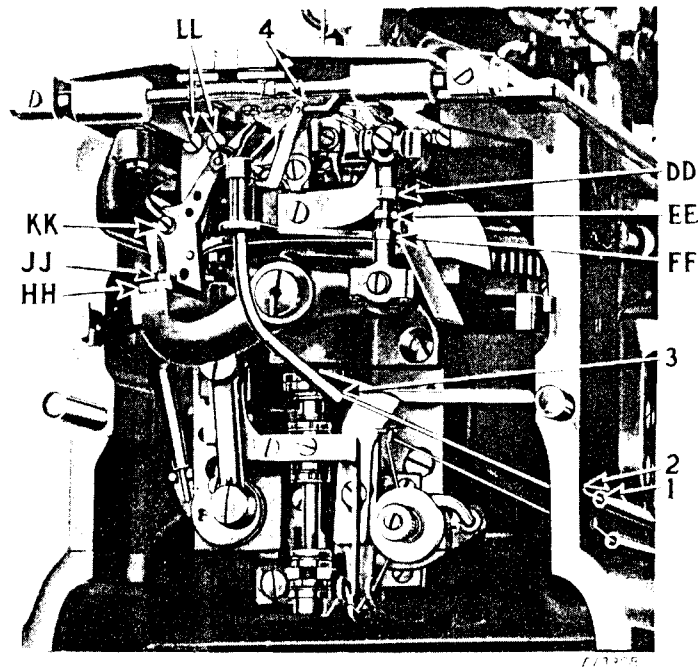
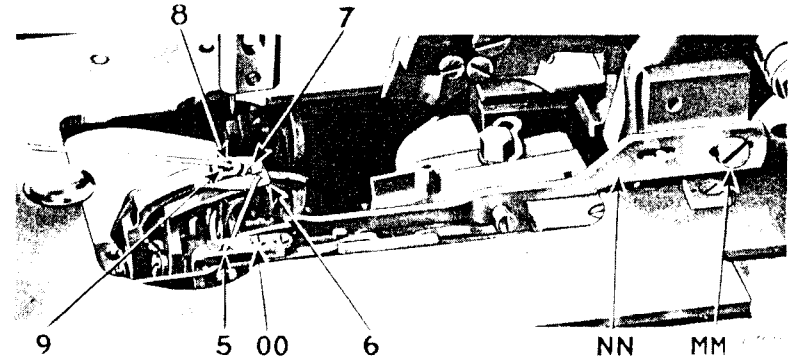
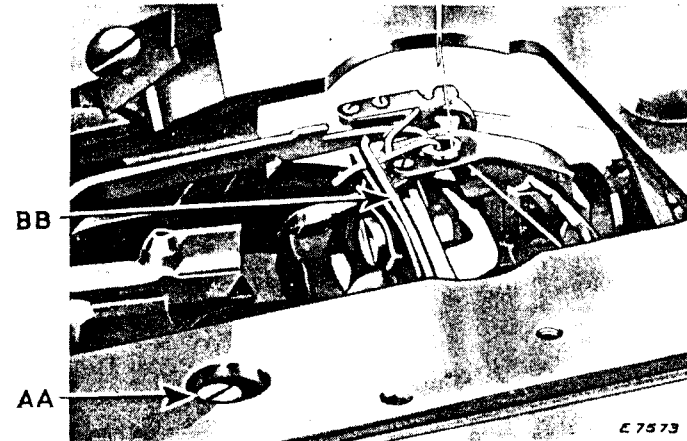

Fig. 39. Threading the Cord
Fig. 40. Threading the Cord
Fig. 43. View of Machine, Showing Under Thread and Cord Trimmer
(See Figs. 39 and 40)
upper brass tube (1, Fig. 39) which is attached to the right side of the machine (using the threading wire furnished for the
purpose), then pass the cord through the upper hole (2, Fig. 39) in the right hand side of the bed of the machine, upwardly through
the cord tube (3, Fig. 39) (using the threading wire furnished for the purpose), then pass the cord through the hole (4, Fig. 39) in the end of the cord leader, up through the hole (5, Fig. 40) in the cord guide and under the tension spring which is attached to the guide, down through the right hand hole (6, Fig. 40) in the throat plate, up through the hole (7, Fig. 40) in the throat plate and under the throat plate tension spring, toward you through the hole (8, Fig. 40) near the center of the throat plate, the cord leading toward you through the large needle hole (9, Fig. 40) in the throat plate, as shown above. Then swing the work clamp plates back into place and hook the springs at the rear of the plates to hold the plates in position.
To increase the tension on the cord, turn the screw (OO, Fig. 40) downwardly. To decrease the tension on the cord, turn the screw (OO) upwardly.
After the trimming of the cord, the buttonhole cutting mechanism moves forward to a cutting position, and at the same time actuates the cord pull-off (NN, Fig. 40), causing it to pull the cord back through the horizontal cord hole (8, Fig. 40) in the throat plate.
The cord pull-off (NN) should draw off just enough cord to permit the cut end to extend through the horizontal hole (8, Fig. 40) in the throat plate to the opposite side of the needle opening (9, Fig. 40). This will leave sufficient cord with which to commence the sewing of the next buttonhole.
To adjust the cord pull-off (NN) to pull more or less cord, loosen the screw (MM, Fig. 40) and move the cord pull-off (NN) forward or backward on the buttonhole cutting lever bracket, as required, then securely tighten the screw (MM).
When the under thread and cord trimmer blades are cutting the threads, the upper or stationary blade (BB, Fig. 43) should pass
sufficiently close to the material to gather in both threads and cord lying between the last stitch of the buttonhole and the throat plate and as close as possible to the last stitch to ensure close trimming. To adjust the under thread trimmer, loosen the screw (JJ, Fig. 39), and slide the bracket (HH, Fig. 39) in or out, as required, then securely tighten the screw (JJ). After making this adjustment, see that the stud in the heel of the movable knife projects the full depth through the slot of the movable knife operating cam. If it does not, loosen the screw (AA, Fig. 43) and slide the knife operating cam in or out as required, then securely tighten the screw (AA).
The thread trimmer blades should be adjusted so that when they close, the cutting edges fully pass each other to ensure severing the threads and cord. To make this adjustment, loosen the two screws (LL, Fig. 39) and swing the cam downwardly to cause the trimmer blades to close more, or upwardly to close less, then securely tighten the two screws (LL).
To adjust the trimmer to move further forward across the path of the threads and cord, loosen the two nuts (DD and FF, Fig. 39) and turn the adjusting screw (EE, Fig. 39) to the right. To adjust the trimmer to move further backward, away from the path of the threads and cord, turn the adjusting screw (EE) to the left. Care must be taken to see that the thread trimmer blades are not thrown so far forward as to cause the stud in the heel of the movable knife to strike the end of the slot in the knife operating cam. Then securely tighten the two nuts (DD and FF).
When replacing the stationary blade (BB, Fig. 43), lower the clamps on the work plates without material under the clamps, then set the blade (BB) so that when it is at the end of its forward stroke, the top surface of its point will enter the clearance cut on the underside of the clamp check and pass as close as possible to the clamp check without coming into contact with it. To obtain the proper clearance between the stationary blade (BB) and the underside of the clamp check, loosen the screw (KK, Fig. 39) and move the blade, as required, then securely tighten the screw (KK).